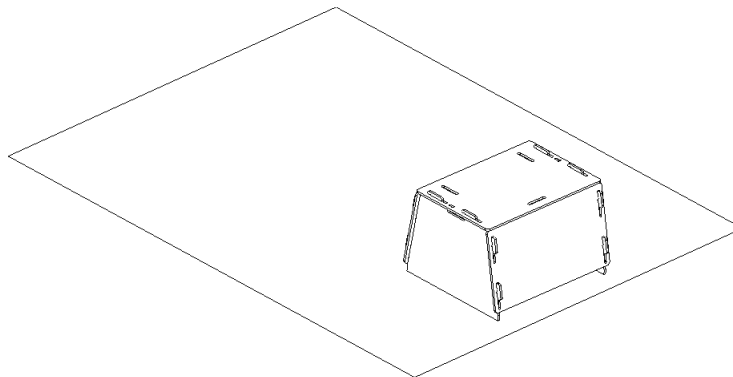

Figure 199: Scanner stand resting on the sheet.
2. Align the scanner stand with the rectangle marked on the sheet, paying close attention to the orientation of the slots in the stand cover (see Figure 199).